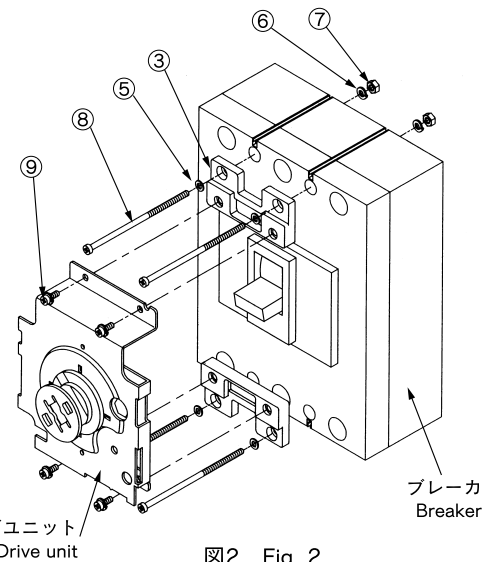

図2 Fig. 2
- (3) ドライブユニットの取付け
- ・添付取付ネジ④4本で、フットとFAB・ELBを先に取付板に共締めしてください。次に取付けねじ⑨4本で、ドライブユニットを締付けてください。(図2)
- (3) Mounting the driving unit
- Place the feet and the FAB/ELB on the mounting plate and fasten them with the mounting screws provided as illustrated in point ⑧. Then place the driving unit on the feet and fasten it with the mounting screws as in point ⑨. (Fig. 2)